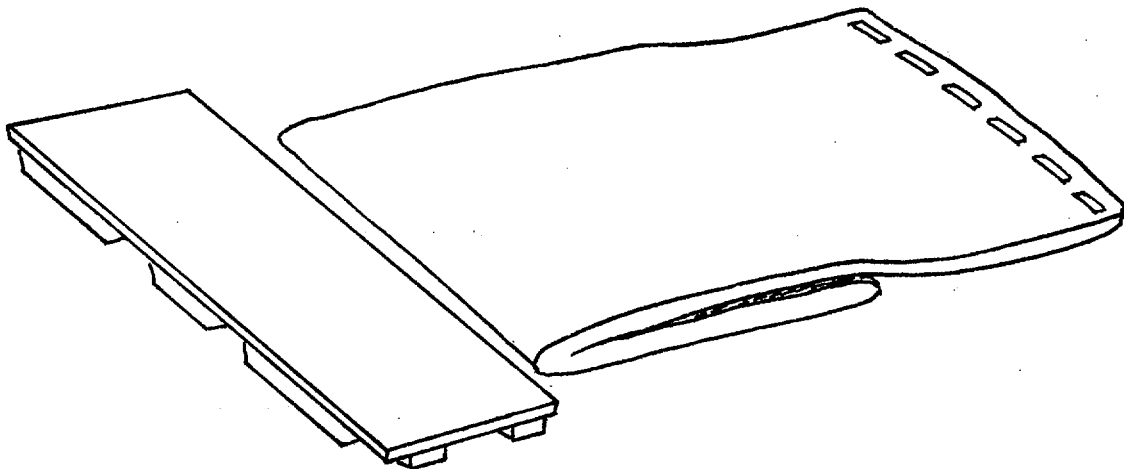

Figure 2-10. Unrolled Tank Folded Back
- (2) Using tank handles located on the S-folded end, fold tank back length-wise until skid is exposed (free). See Figure 2-10.
- (3) Remove skid from deployment site.